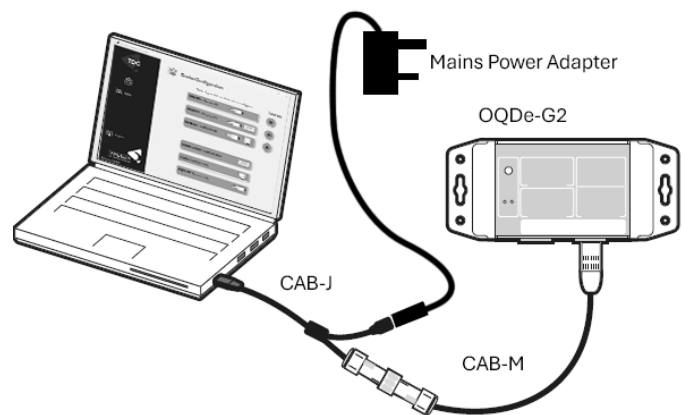

Fig. 3-1 OQDe-G2 selection screen in TD Config
- 1) Refer to Fig. 3-1. Connect the OQDe-G2 to your computer to using cables **CAB-J** and **CAB-M**.